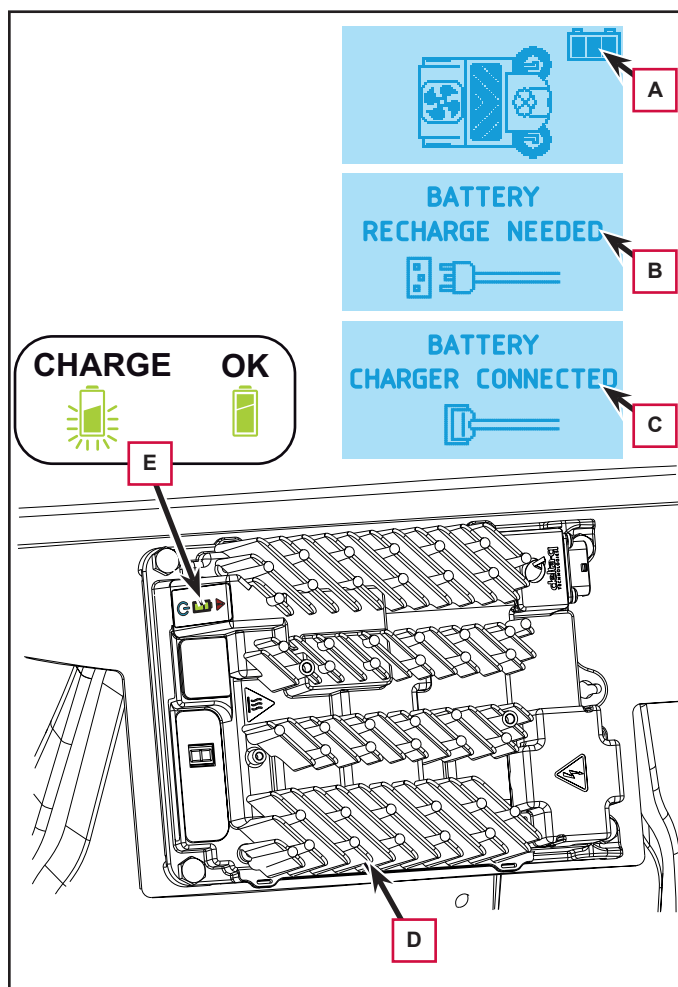

Figure 2
Charge the batteries with the installed battery charger when the last segment of the battery icon (A, Figure 2) starts flashing , or at the end of each job. Keeping the batteries charged make their life last longer. Recharging is essential when the multifunction display shows screen (B).